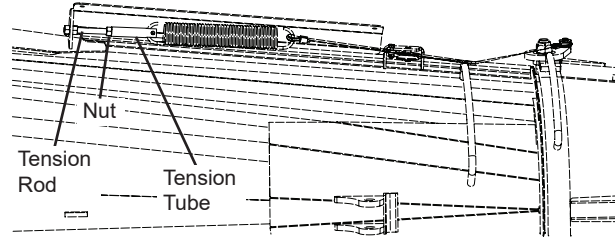

Figure 149
4. Loosen the nuts on the tension rod during the adjustment (Figure 149).
5. Use a pair of vice grips or other suitable tool to hold the tension tube and turn the tension rod clockwise to increase the tension or counter-clockwise to reduce the tension (Figure 149).